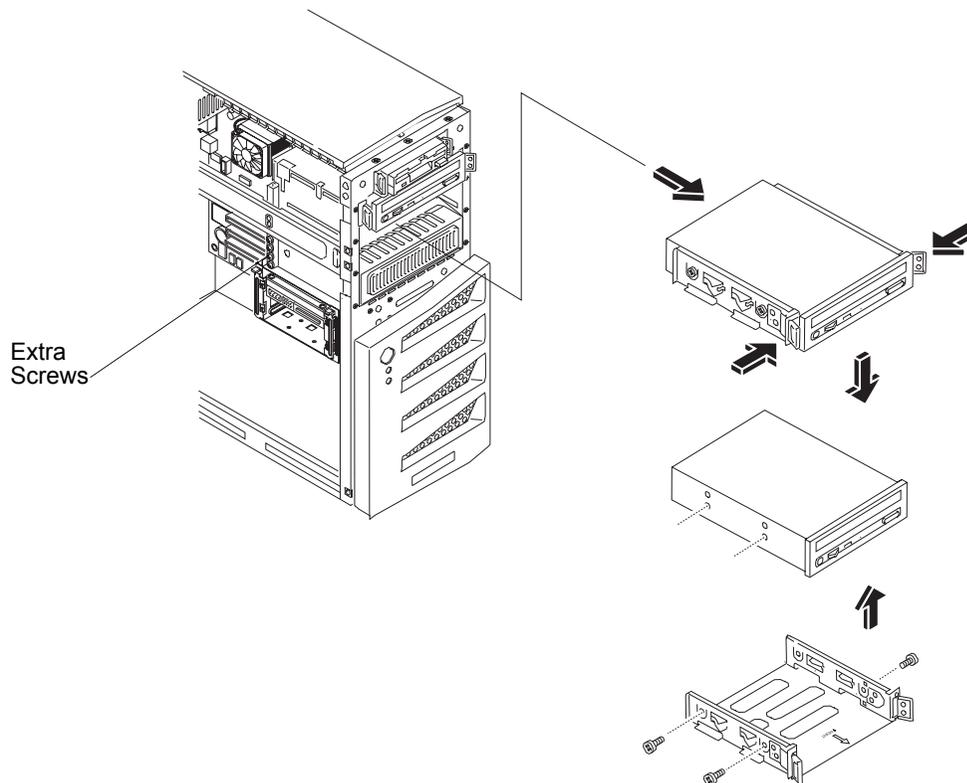

Figure 3-10. Installing an Optional CD-ROM or DVD Drive
5. Press in on both tab latches to release the third drive tray and pull it out at the same time. See *Figure 3-10*.